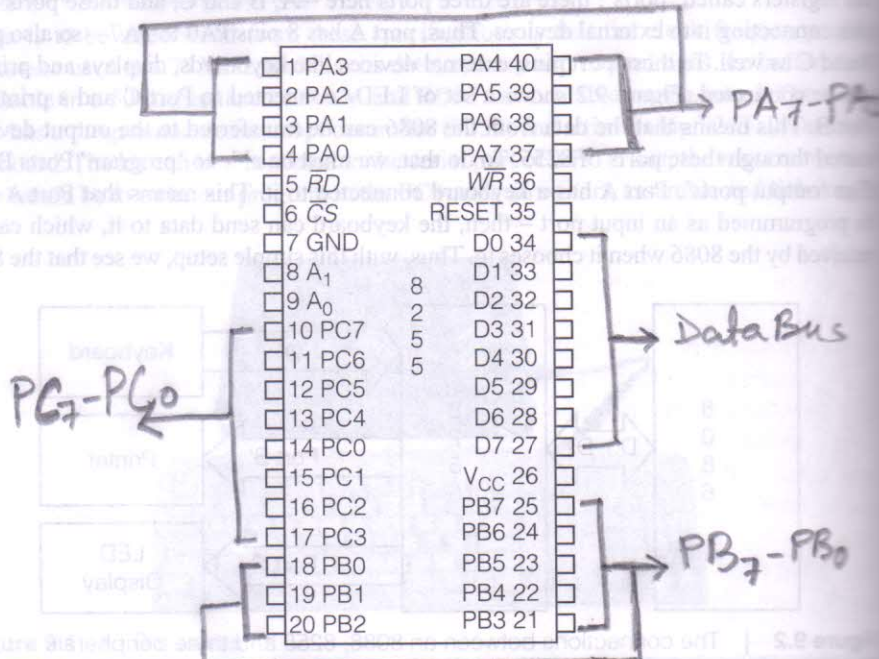

Figure 9.3 | Pin diagram of 8255
Figure 9.3 shows the pin configuration of the DIP (dual-in-line) version of the chip. We see that it has 40 pins, which consist of three 8-bit ports named Port A (PA), Port B (PB) and Port C (PC), each of which can be programmed as input or output ports. Figure 9.4 shows the internal block diagram of the chip. It is seen to consist of various functional blocks, and let us take a quick look at each of the blocks.